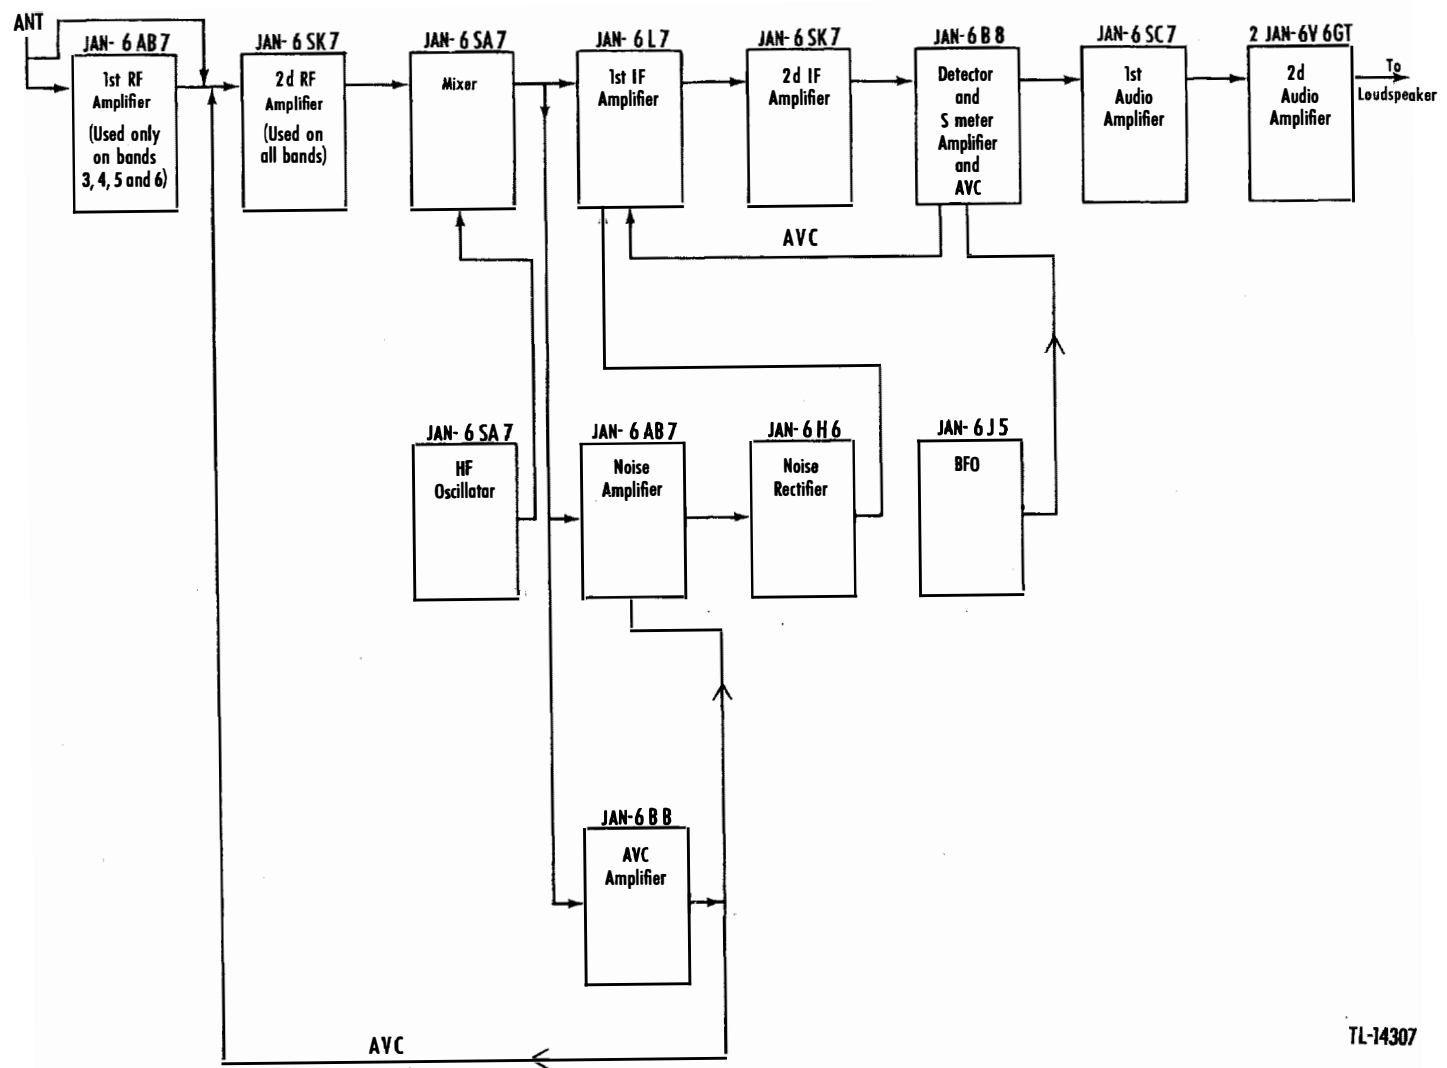
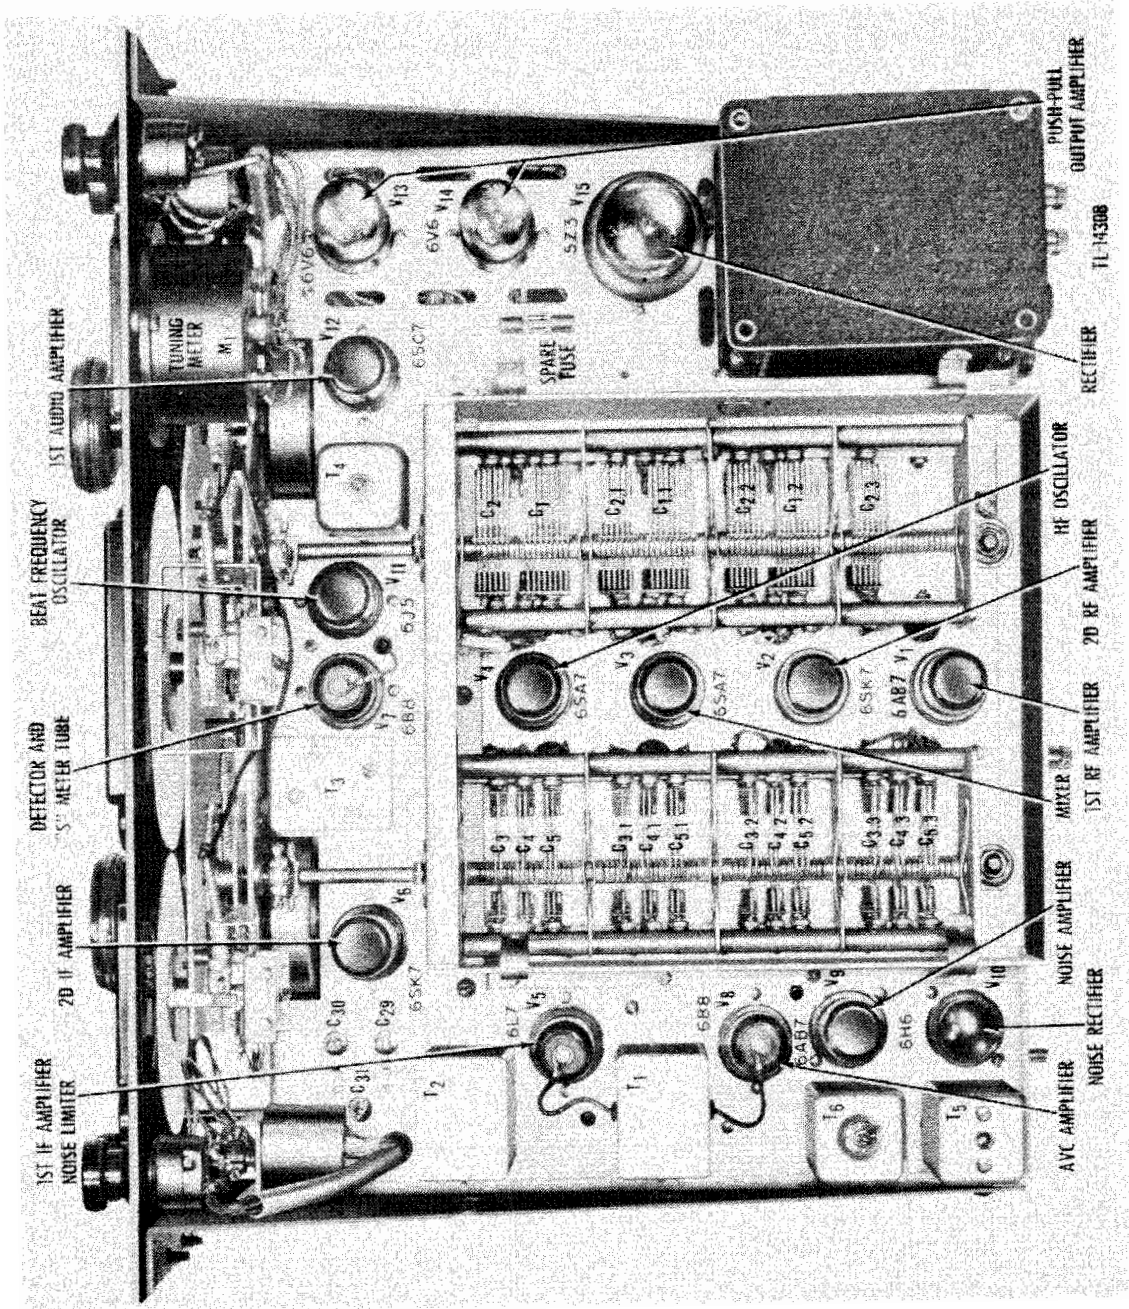

Figure 7. Radio Receiver AN/GRR-2, block diagram.
Figure 8. Radio Receiver AN/GRR-2, top view of chassis.
Figure 7 is a block diagram showing the progress of the signal through Radio Receiver AN/GRR-2 with its associated control circuits. Figure 8 is a view of the interior of the receiver with the function of each tube indicated. The signal picked up by the antenna is fed to the first r-f amplifier. This stage is not used when operating on bands 1 and 2. From this stage the signal is passed through the second r-f stage for further amplification and fed to the mixer tube. Here the signal combines with the output of the high-frequency oscillator producing the intermediate frequency. The output of this stage feeds three circuits: the first i-f amplifier, the noise amplifier, and the automatic-volume-control amplifier. The noise amplifier and associated noise rectifier apply an instantaneous cut-off grid bias to the first i-f amplifier upon receiving high amplitude transient noise impulses. The a-v-c amplifier and rectifier return a biasing voltage to the r-f stages and converter stage proportional to the magnitude of the received signal. The signal progresses through the first and second i-f amplifier stages in succession and passes to the detector where rectification occurs. An a-v-c voltage developed here is used to control the sensitivity of the first i-f stage. For c-w signals, the beat-frequency oscillator produces a heterodyning frequency which combines with the converted signal in this detector stage to produce an audible note. A d-c amplifier, using the d-c component of the signal, is provided to actuate the S meter. The output of the detector passes to the first and second audio amplifiers, and to the audio output connections.
c. Fuses. The operating power supply line fuse is located in a plug mounted on the rear apron of the chassis (fig. 2). The spare fuse is held in a clip mounted on top of the chassis near the power rectifier tube (fig. 8). When necessary, replace the blown operating fuse with the spare, and replace the spare fuse with one of identical characteristics.